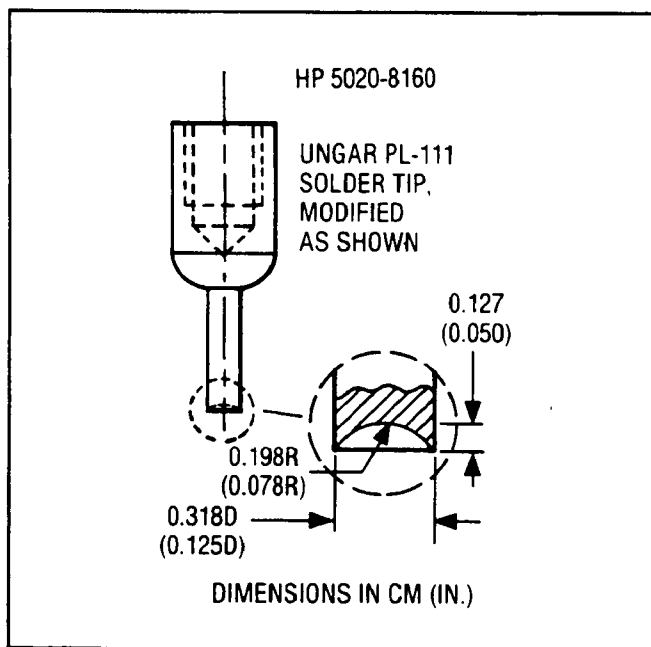
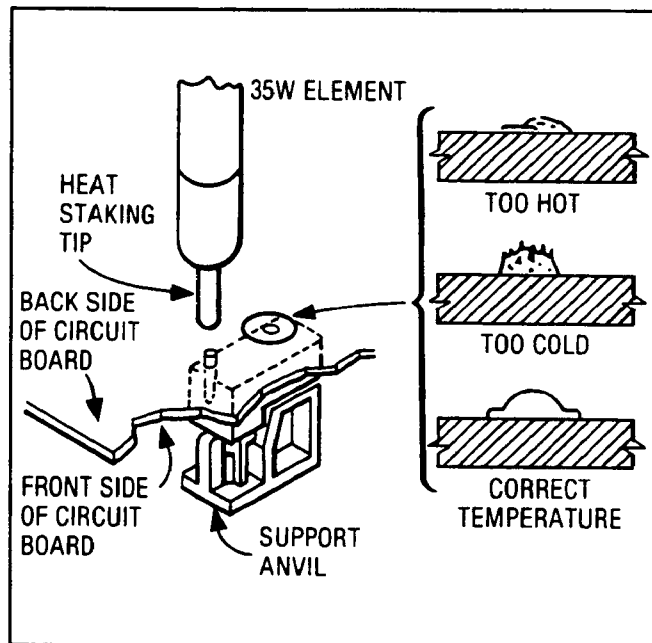

Figure 8-4. Heat Staking Tip
Figure 8-5. Typical Assembly for Heat Staking Operation
5. To ensure proper switch assembly, verify that the switch is pushed firmly against the circuit board. Using the hot (440°C or 825°F) staking tip (see Figure 8-4), push down on each of the two posts on the switch. Each post should take about one second to stake. With the proper cycle, the post should turn a darker color and, in about ten seconds, return to its original bright red color. The correctly staked post should have a smooth round rivet-like top (Refer to Figure 8-5).